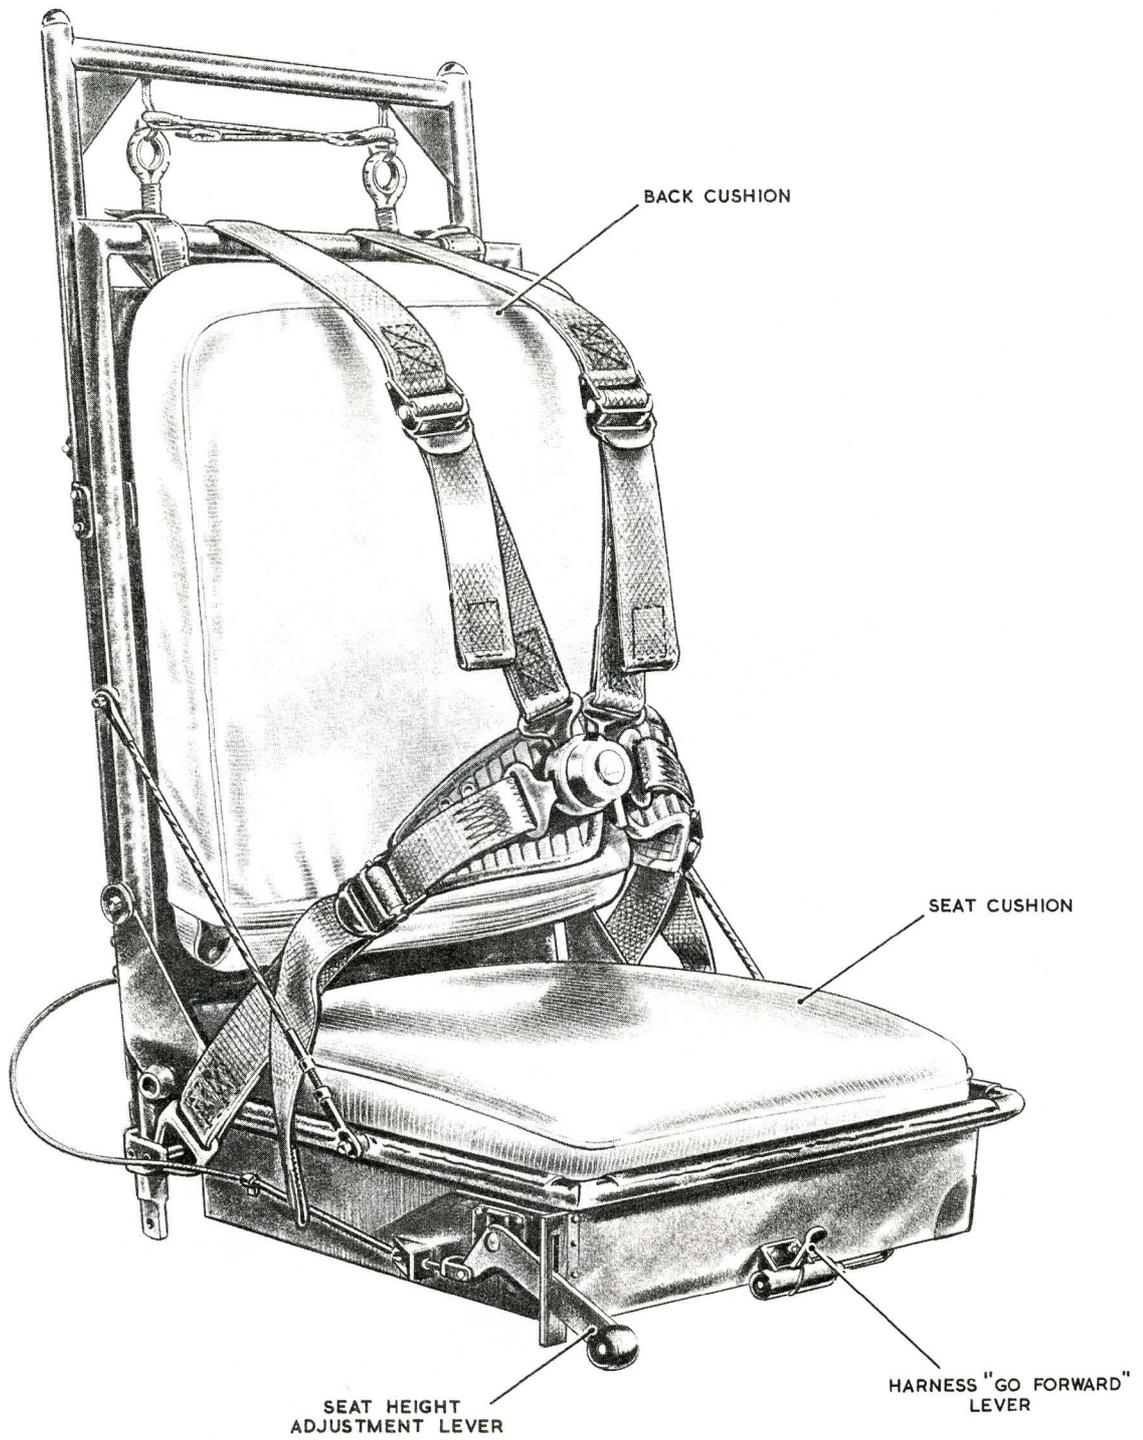

Fig. 1. The seat equipped
4. The following procedure is to be used, reference being made to fig. 1 -